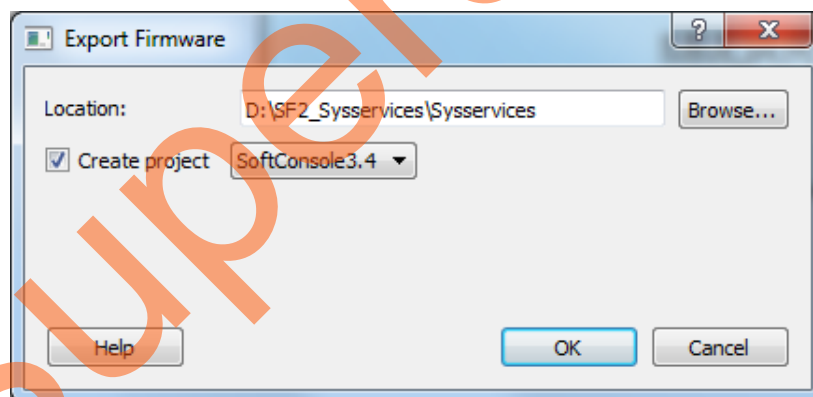

Figure 18 • Creating SoftConsole Project
6. Click **Export Firmware**. The Export Firmware dialog box is displayed as shown in Figure 18.